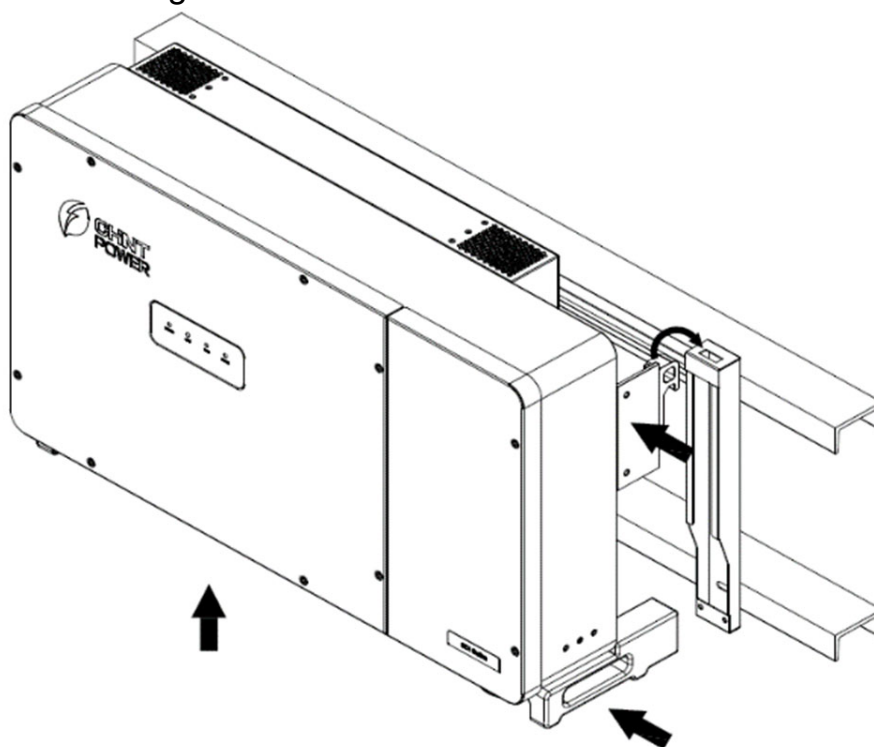
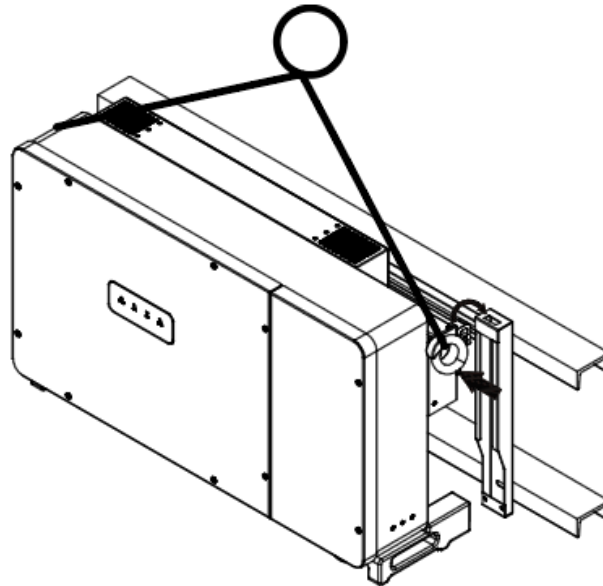

Figure 3-7 Manual hanging
Figure 3-8 Lift mounting
3. Hang the inverter host on the wall bracket according to Figure 3-7 & Figure 3-8.
- (1) Manual hanging: Three people are needed to properly lift the inverter by the handle positions marked in Figure 3-7, and mount the inverter onto the mounting bracket.
- (2) Lift mounting: Screw two M10 lifting eyebolts to the studs at the top of the inverter. Use sling rope or bar (inserted through both lifting eyebolts) to lift the inverter onto the mounting bracket. The minimum angle between the two sling ropes should be less than 90 degrees, as shown in Figure 3-8.